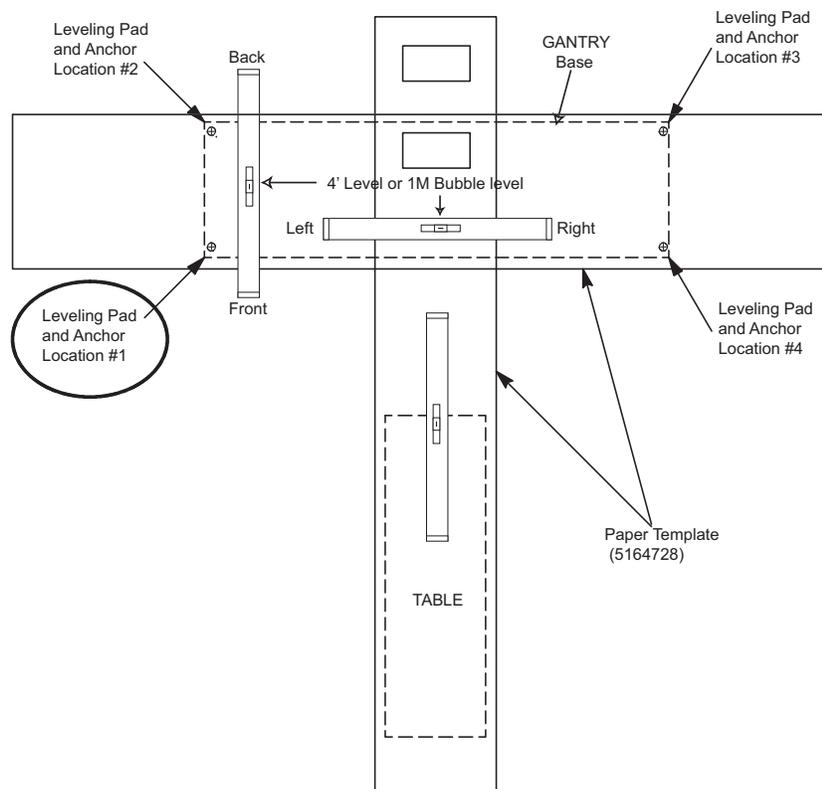

Figure 2-1 Hole Locations
- 4.) Check the level of the floor (See Figure 2-1) across the templates.
This should be measured on the template over the table/gantry area, as shown in Figure 2-1, above.